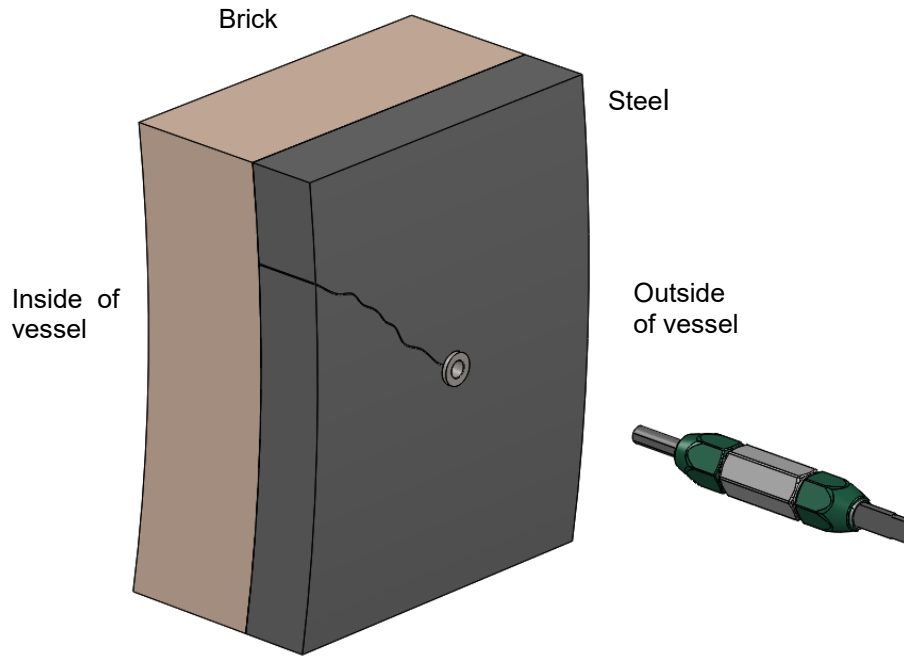

Figure 6.3-3
3. Verify cold expansion of bushing with plug gage end of the combination gage BTCG-1533-A-0 as shown in Figure 6.3-3. If the plug gage does not fit into bushing ID, then this installation has not been expanded properly. Here are a few possible scenarios:
2. Press pin into bushing as shown in Figure 6.3-3. The pins for each size (.75, 1.50, 2.25, and 3.00) are intended to be installed flush against the flange of the first bushing. Use air hammer or sledge hammer to drive pins until they stop. Do not hammer pins excessively if pins stop moving. Be aware that pin end can “mushroom” on excessive driving, preventing complete installation into bushing. Overflush pins are acceptable and pins may be trimmed if desired.